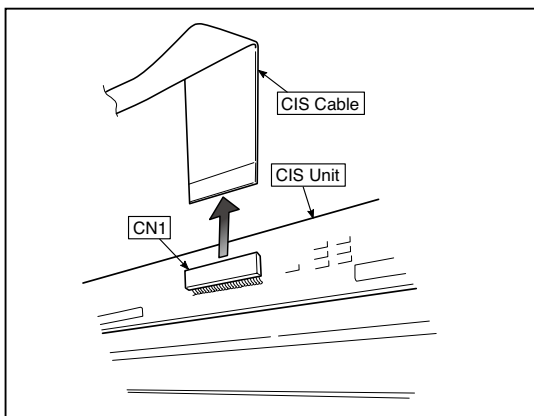

Fig.17
- Disconnect the CIS Cable (FFC), shown in the figure 17, from a connector.